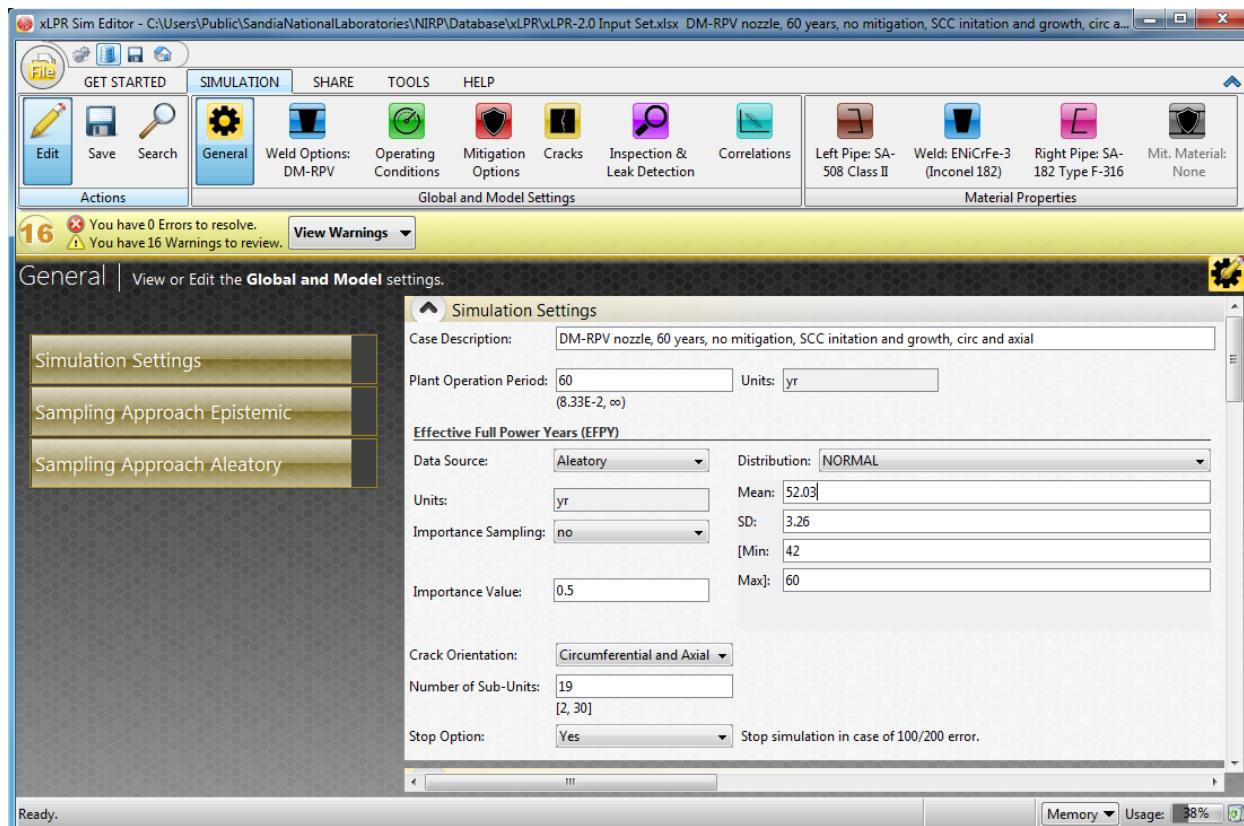

Figure 7. Simulation settings.
- Top border that displays the path and file name of Input Set (see Figure 7)
- Information field below the ribbon for warnings and errors (see Figure 7)
Errors and warnings are tallied by the Sim Editor at the yellow banner beneath the button ribbon. They are viewed by clicking the View button in the banner (e.g., Figure 7). Symbols indicating errors and warnings also appear in the input panels and input panel buttons.
An example of the Sim Editor display in simulation mode is shown in Figure 7. In simulation mode, the Sim Editor shows
Under the **Simulation** tab, there are three sets of ribbon buttons (Figure 7):
General – The settings under the *General* button are nearly all model settings and options. They are shown in Figure 7. The *General* button panels (•) and inputs (◦) include